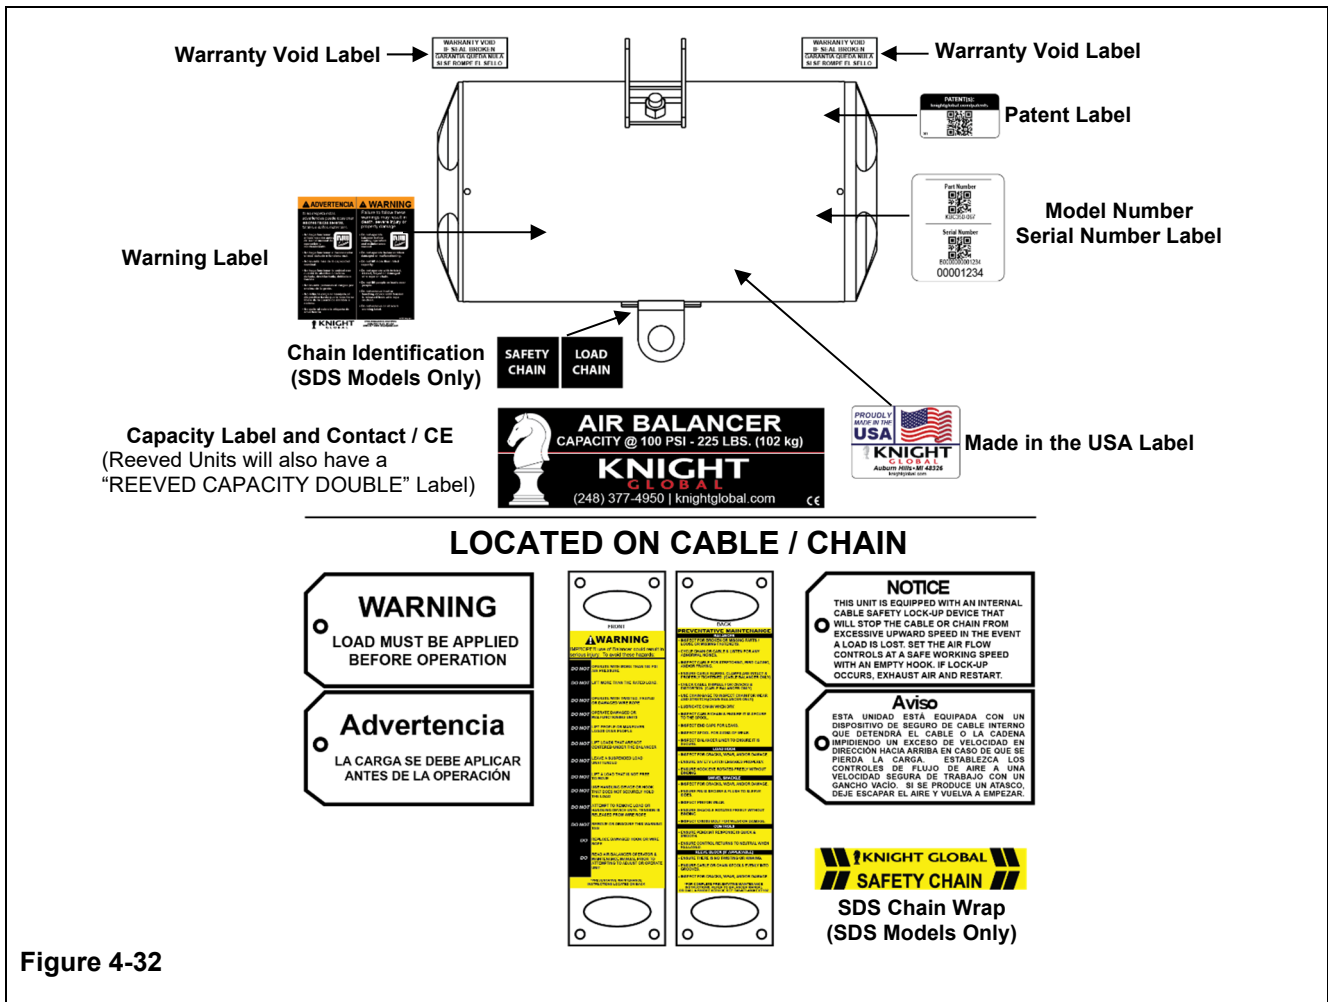

Figure 4-32
- Ensure that all labels are intact and legible (See Figure 4-32). Replace as necessary.